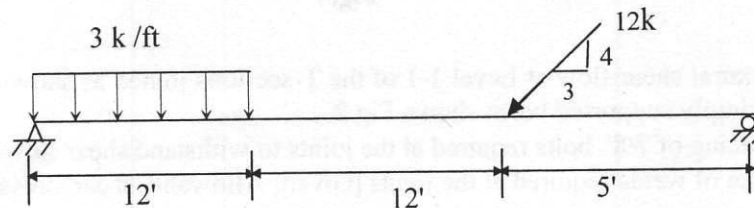

Fig :1
1. Using section method, draw axial force, shear force and bending moment diagrams for the beam as loaded in Fig. 1.